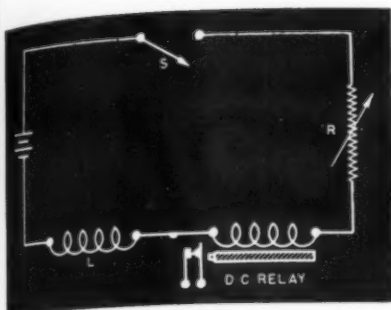

Figure 5.
**SYSTEM 2.** Almost the exact reverse of the operation just described may be obtained with the circuit shown in Figure 5. Here, timing is controlled by inductance and resistance components.
actual value of the resistance with respect to a given value of inductance; hence by making R variable, as shown in Figure 5, various time intervals may be obtained.